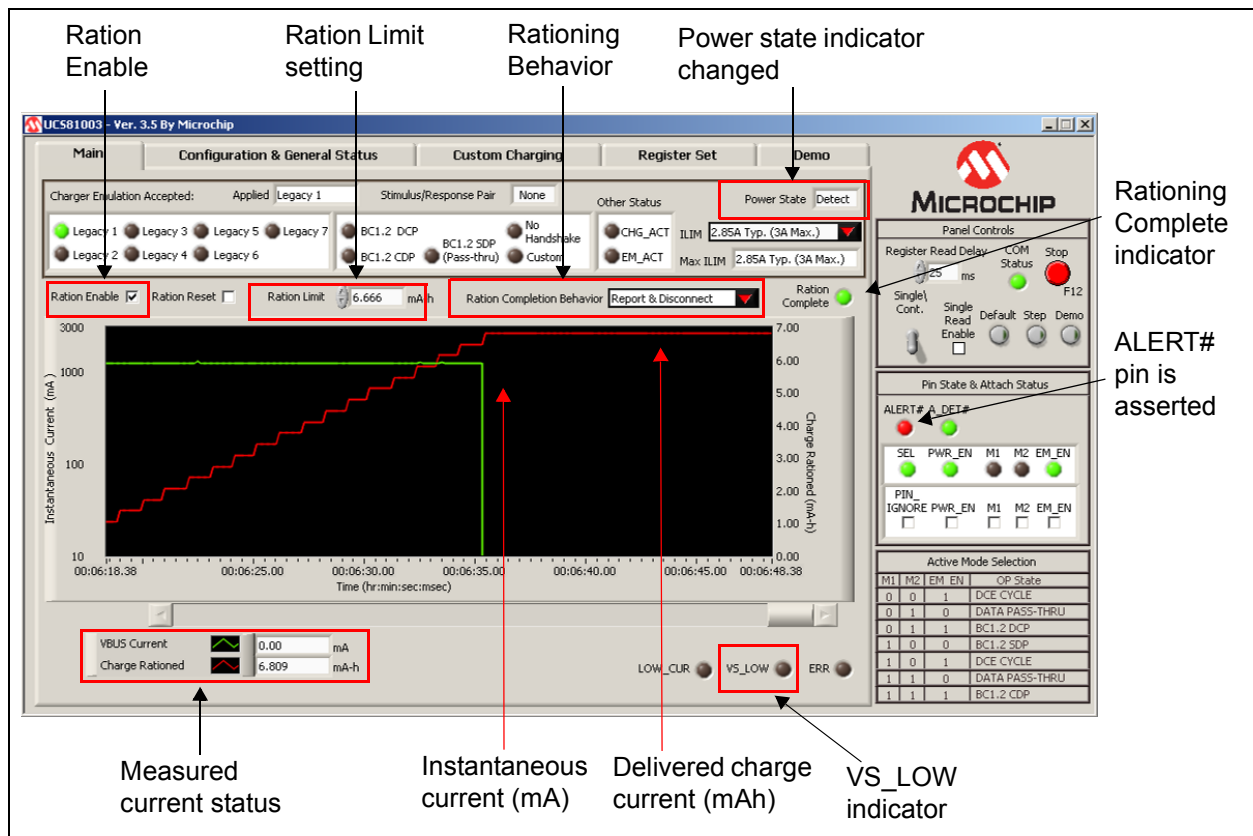

FIGURE 4-10: Main Tab - Ration Limit Reached.
6. Watch the GUI as the device starts charging. Figure 4-10 shows the interface after the ration limit was reached (for “Report & Disconnect” behavior setting).
Note: As shown in Figure 4-10, the green trace is the instantaneous current, while the red diagonal line is the charge being delivered in mAh. Both are also presented in numeric format inside the bottom left boxes. Trace color and characteristics can be changed by clicking on the waveform boxes to the left of these numerical values.